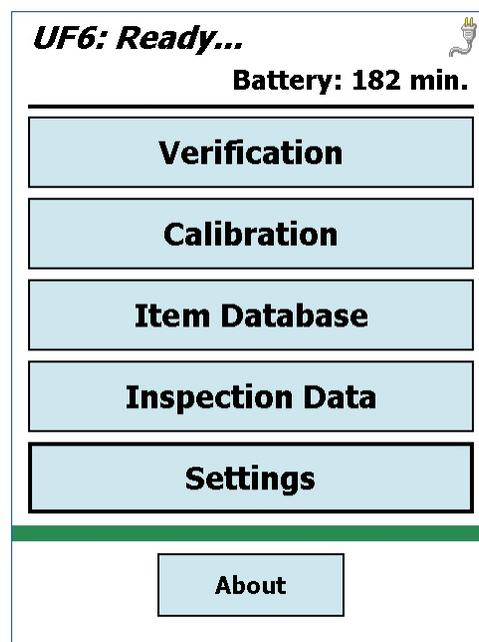

Figure 19. Cooled and Ready Micro-UF6.
- When the detector reaches operating temperature, the high voltage will automatically turn on, all **ERR** state-of-health messages will change to **OK**, and the status message at the top of the touchscreen will change to **Ready...**, as shown in Fig. 19. The Micro-UF6 is now ready for software configuration and calibration.
- Figure 19 shows the Main Menu screen. It is designed to present the most often used function — verification — at the top of the menu, and the less frequently used options at the bottom. Chapter 3 tells how to set up the Micro-UF6's **Settings** options. Chapter 4 gives the instructions for calibration and verification.